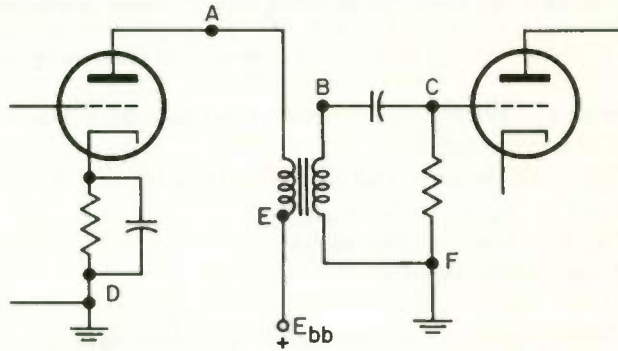

Fig. 31
- (1) Input signal too high
- (2) Input signal too low
- (3) Grid bias too low
- (4) Grid bias too high
- (5) Operating in the nonlinear portion of the dynamic characteristic
6. Figure 31 shows two transformer-coupled audio amplifier stages. This diagram needs correction as follows: